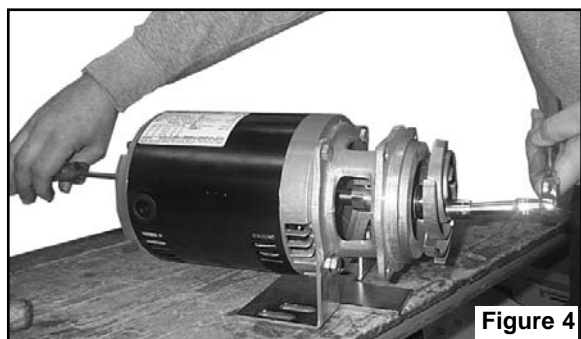

Figure 4
2. Insert wrench between openings in adapter and place on flats of stub shaft. While holding shaft against rotation, remove the impeller retaining assembly using a 7/16 socket (Figure 4).